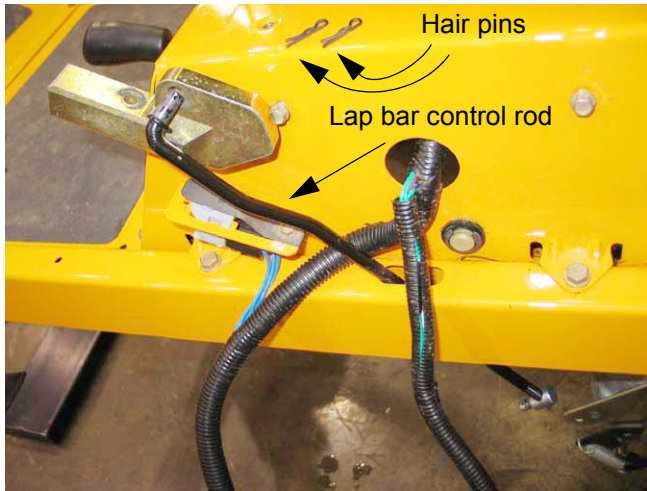

Figure 13.6
13.6. While rotating the control hub forward the lapbar control rod can be disconnected and removed. See Figure 13.6.